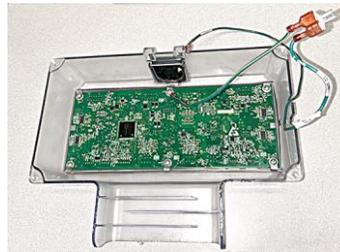

Figure 13
16. Set the HCB assembly aside (see Figure 13).